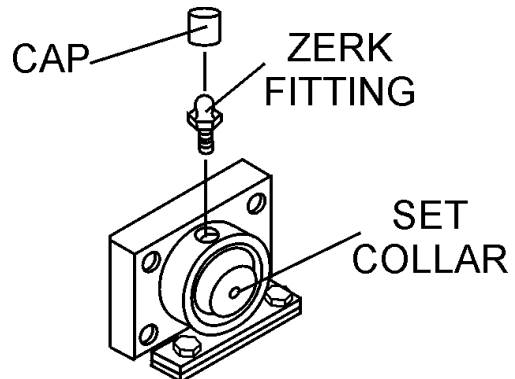

Figure 7. Zerk Fittings (Bearings)
1. Check the zerk grease fittings at each end of the mixing drum (Figure 7). These grease fittings lubricate the dumping mechanism. If the dumping handle is stiff or hard to move lubricate these fittings.